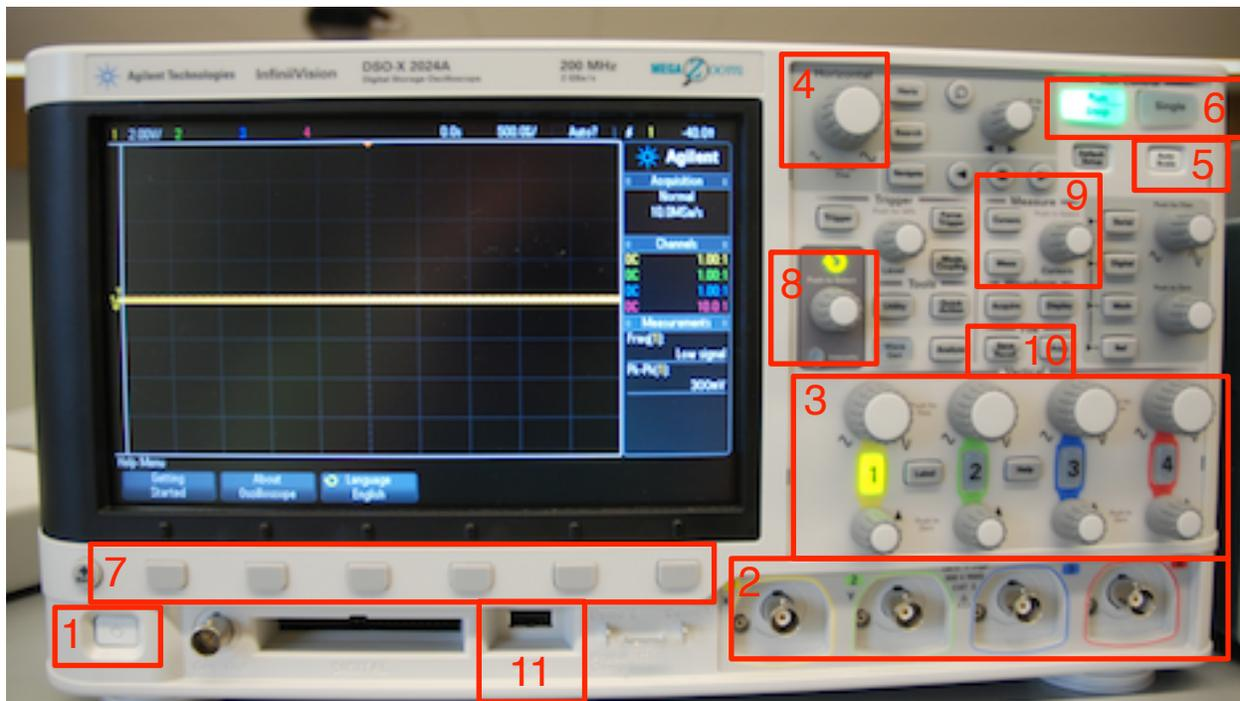

Figure 1. Some important items on the front panel of the Agilent DSO-X-2024A oscilloscopes in the EE 201/230 laboratory.
3. Vertical (voltage) scale and offset controls, one set for each channel. Usually, the first signal is applied to channel 1 and channels 2-4 are added as needed for the particular measurement. Channels are activated automatically when an *Autoscale* is performed. When a channel is active, its channel button will be lit and there will be a trace on the display for that channel. In Fig. 1 above, only channel 1 is active – the yellow “1” is lit while all the other channel buttons are dim. Channels can be manually activated or de-activated by pushing the channel buttons.
5. *Autoscale* button. This causes the oscilloscope to automatically acquire a voltage signal and draw a trace on the display. It will activate each channel where a voltage signal is sensed. Sometimes the Autoscale activates a channel even if there are not leads attached. Other times, a channel that should be activated may not be. You can manually activate / de-activate channels as described in item 3 above.
To check and set the probe scale factor for a particular channel, start by pushing the channel button (section 4 in Fig. 1.) Press the *Probe* softkey that appears – pressing it once causes a pop-up menu to appear. Continue to press the *Probe* softkey until the *Ratio* menu item is selected. Use the *Entry knob* to adjust the ratio until it matches the channel’s probe. For the scope probes, the attenuation ratio is printed on the probe case – most in our lab are 10:1. Of course, the breadboard leads have no attenuation, so the ratio is 1:1.
You can adjust the time scale by turning the *Horizontal* control knob (item 4 in Fig. 1.) Turning this knob adjusts the time / division of the graph on the display, expanding or contracting the trace in the horizontal direction. The current time / division setting is listed at the top left corner of the graph.
The vertical scaling and position for each channel trace are adjusted using the vertical controls (section 3 in Fig. 1). Each channel has its own vertical scaling, and is adjusted using the vertical scale knob (larger knob above the channel buttons). The scaling (V/division) for each channel is given along the top edge of the graph. In addition, the traces can be moved up and down on the graph using the vertical position knobs (smaller knobs below the channel buttons). The zero point for each trace is indicated along the left side of the graph by a small “ground” symbol. You can move two or more traces so that they have the same zero point in order to make direct comparisons. Or you can move traces away from each for clearer viewing.